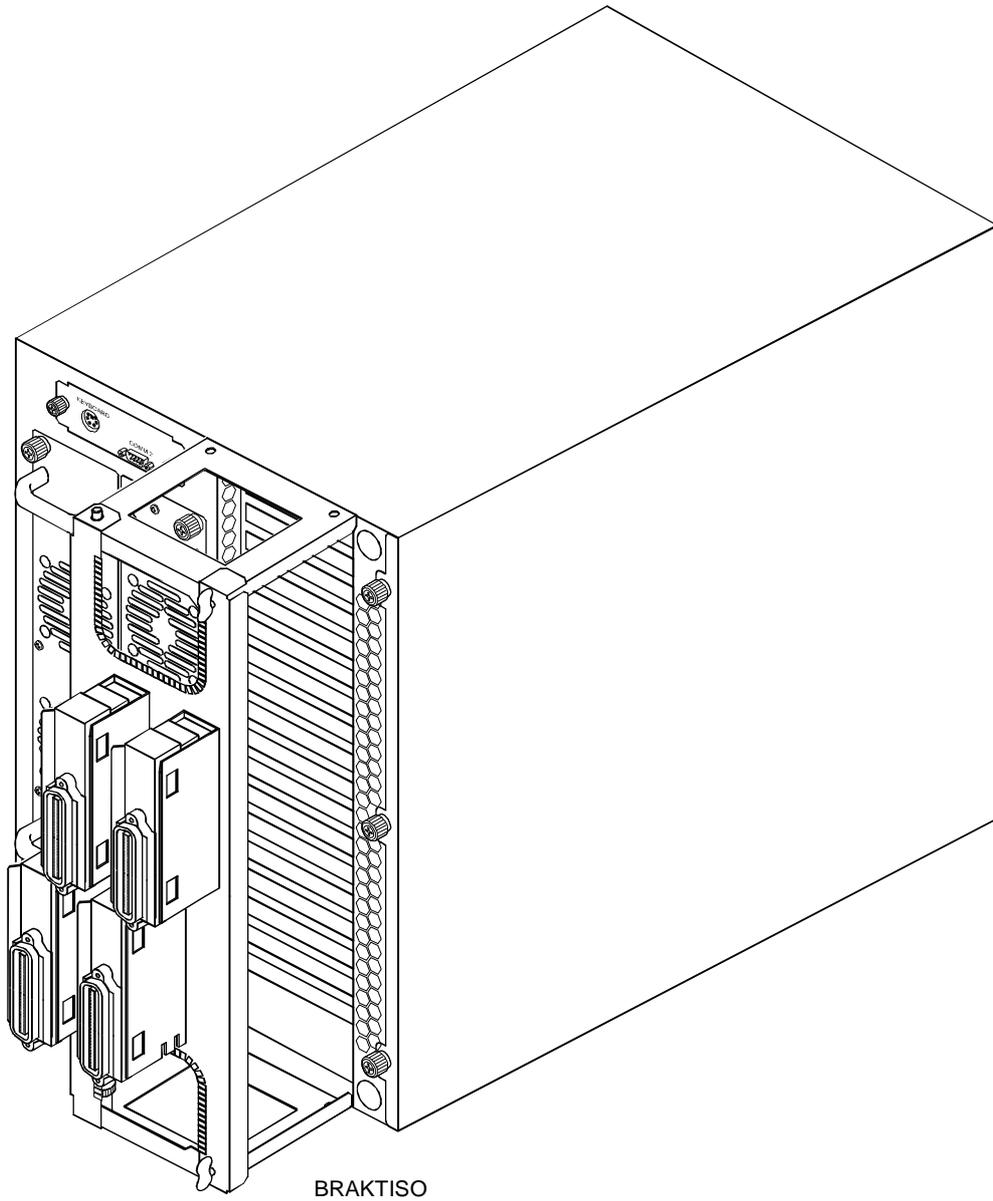
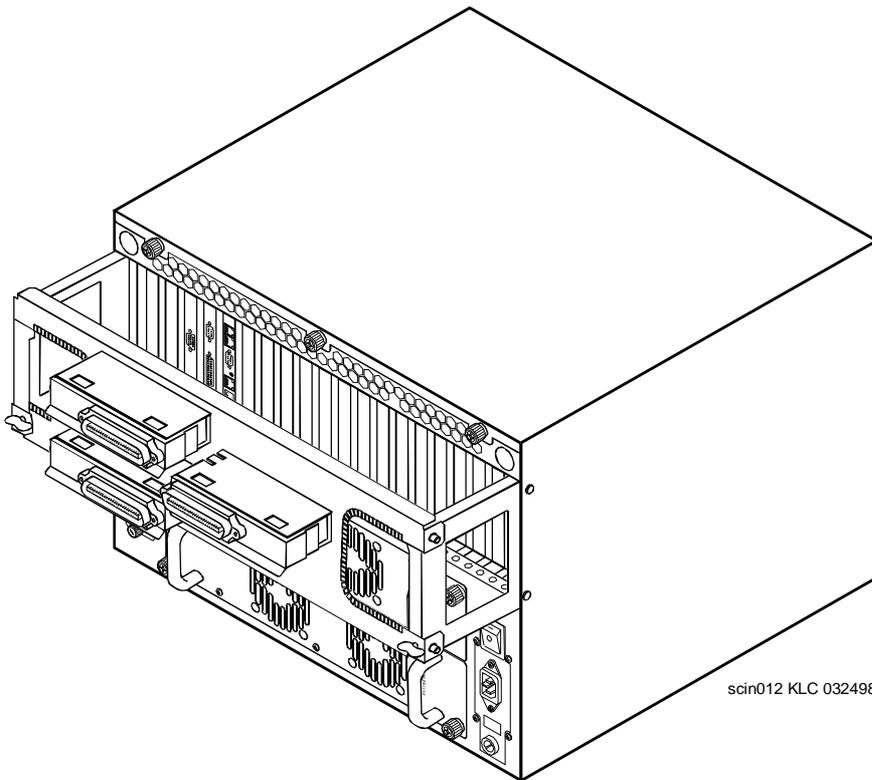
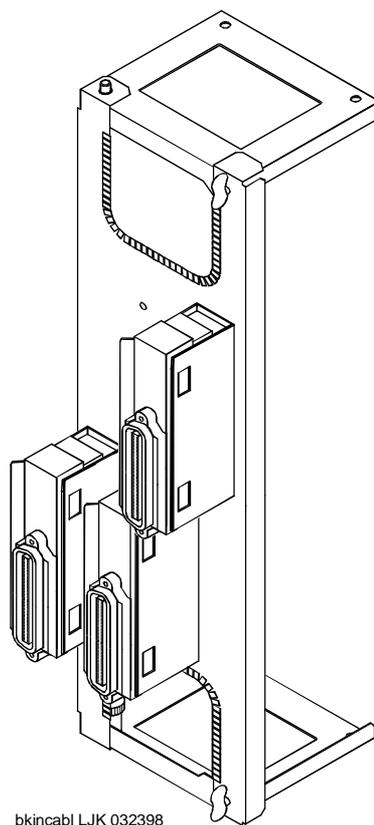

Figure 3-6. Tip/Ring Distribution Hardware on Deskside MAP/100P
Figure 3-7. Tip/Ring Distribution Hardware on Rack-Mount MAP/100P
Figure 3-8. Tip/Ring Distribution Hardware Orientation for Deskside MAP/100P
The Tip/Ring distribution hardware attaches to the rear bracket on the deskside MAP/100P (Figure 3-6) and the rack-mount MAP/100P (Figure 3-7).
3. Secure the u-shaped adapter support clips to the mounting plate on the rear of the MAP/100P with the screws provided (Figure 3-6).
The u-shape of the bracket is mounted differently on the deskside configuration of the MAP/100P (Figure 3-8) than on the rack-mounted configuration (Figure 3-7).